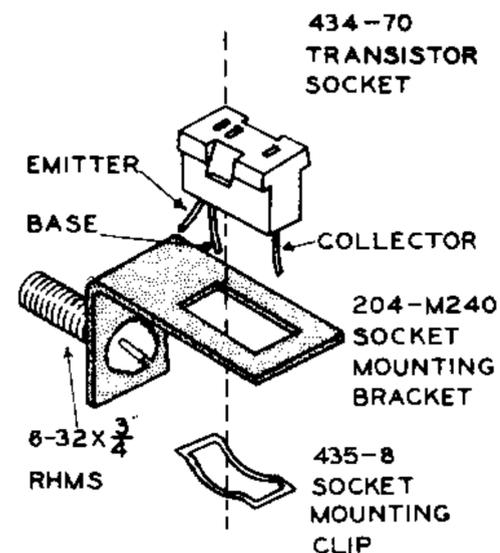

Figure 3
- ( ) Refer to Figure 3 and insert a 6-32 x 3/4" RHMS (Round Head Machine Screw) first through the transistor L bracket, then insert the transistor socket in the bracket with the emitter and base connections next to the screw head. With the transistor socket in the L bracket, turn it upside down and force the mounting clip onto the socket with the points of narrow-nose pliers until the small spring tabs are retained in the depressions of the socket. Set this assembly aside until required.